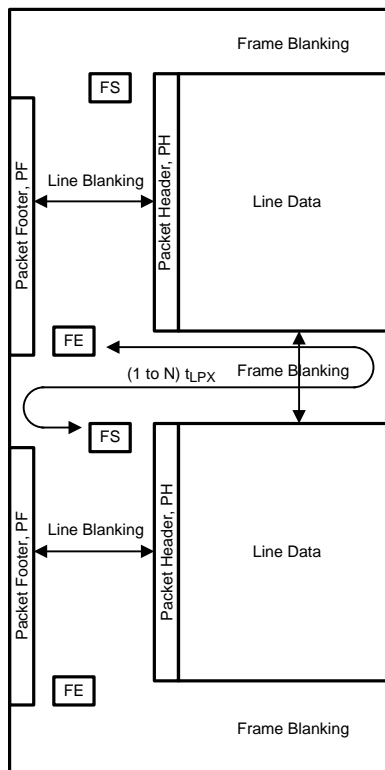

Figure 31. CSI-2 General Frame Format
The DS90UH940N-Q1 (in default mode) takes RGB 24-bpp data bits defined in the serializer and directly maps the bits to the pixel color space in the data frame. The DS90UH940N-Q1 follows the general frame format as described per the CSI-2 standard (Figure 31). Upon the end of the vertical sync pulse (VS), the DS90UH940N-Q1 generates the frame end and frame start synchronization packets within the vertical blanking period. The timing of the Frame Start will not reflect the timing of the VS signal.